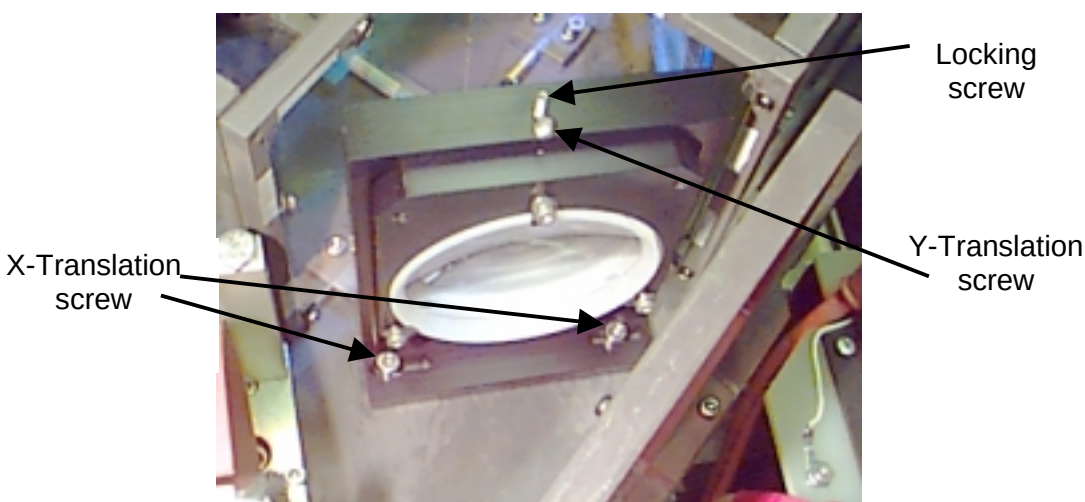
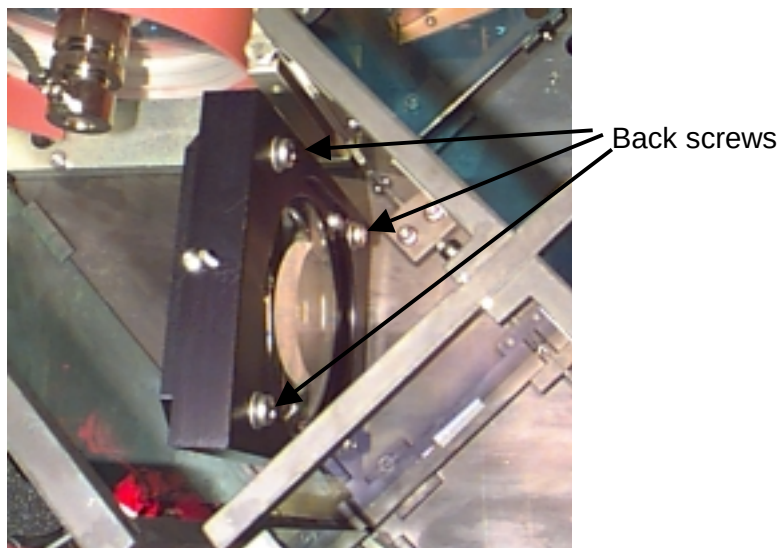

Figure 3-8. Condensing Lens, front view.
Figure 3-9. Condensing Lens, rear view.
4. Loosen the two X-translation screws that hold down the Condensing Lens (see Figure 3-8). This allows the X (horizontal) alignment of the condensing lens.
5. Loosen the hex Locking Screw (Figure 3-8) very slightly. This allows the Y (vertical) alignment of the condensing lens.
6. Turning the Y translation screw, located next to the locking screw (Figure 3-8) raises or lowers the lens. Rotating the screw clockwise raises the lens, rotating counterclockwise allow the lens to be pushed down manually. If the lens does not move freely, the four back screws may be too tight. To loosen
the four back screws (Figure 3-9), first remove the Condensing Lens by removing the two X translation screws (Figure 3-8), then very slightly loosen the four back screws until the lens can move freely in the up or down direction by turning the Y translation screw. Then replace the Condensing Lens.
10. Adjust the Y (vertical) position of the Condensing Lens to center the hot spot vertically. Do this by adjusting the Y translation screw (Figure 3-8) until the "hot spot" is centered vertically on the screen.